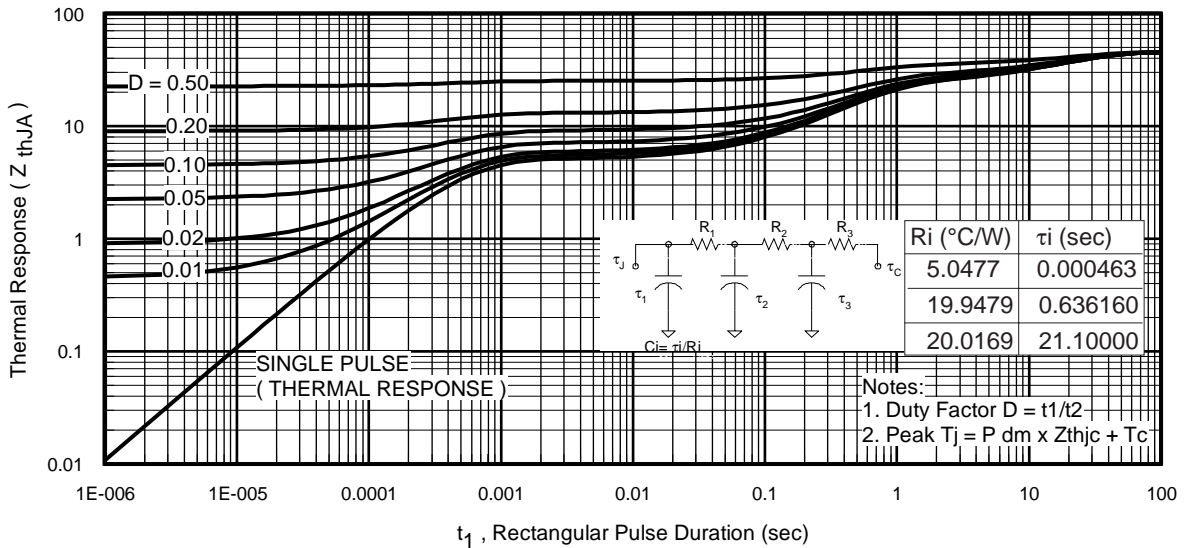

Fig 11. Maximum Effective Transient Thermal Impedance, Junction-to-Ambient
- ① Repetitive rating; pulse width limited by max. junction temperature. (See fig. 11).
- ② Limited by T_{Jmax}, starting T_J = 25°C, L = 2.8mH
$Z_{thJC}(D, t_{av})$ = Transient thermal resistance, see figure 11)